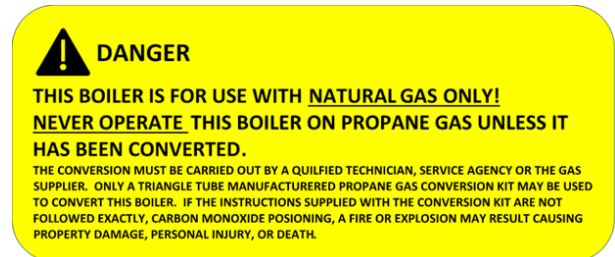
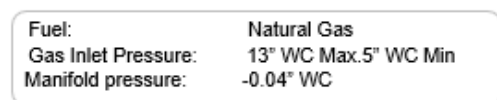

Fig. 4: Natural Gas Conversion Label
Fig. 5: Natural Gas Rating Label
8. Attach the Natural Gas conversion label (Fig. 4) to the side of the boiler and the rating label label (Fig. 5) over the applicable part of the existing rating label